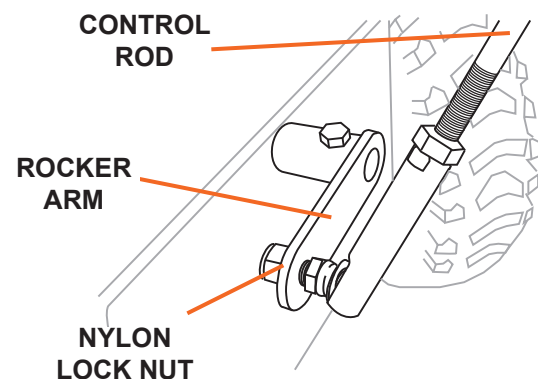

Figure 3
3. Attach the other end of the gear shift control rod to the rocker arm on the rear of the snow thrower (see Figure 3). Pass the attachment bolt on the control rod through the hole in the rocker arm and secure with a nylon lock nut.